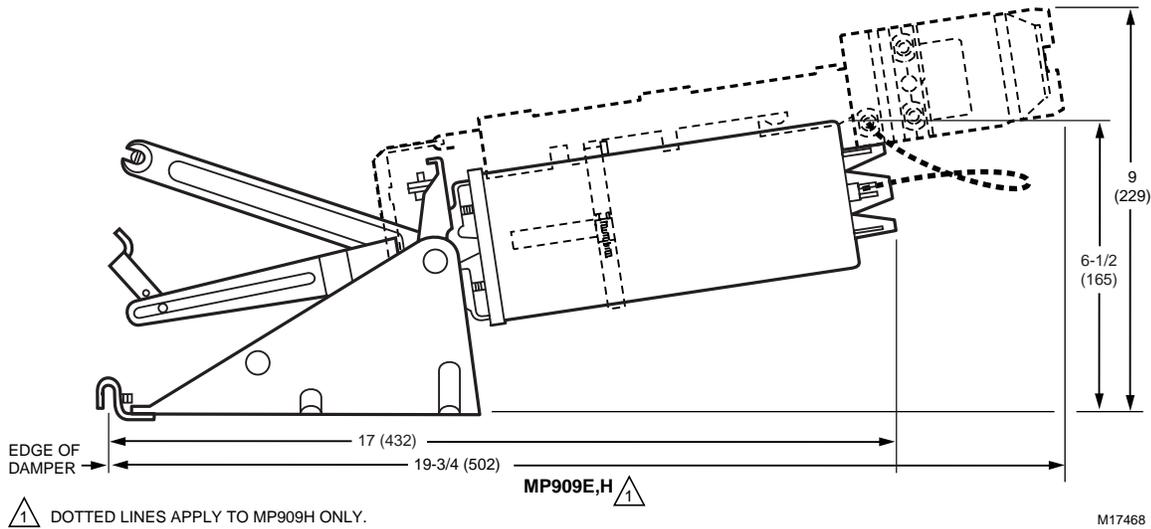

Fig. 13. Internal Mounting Normally Open Dimensions in in. (mm).
1. See Fig. 13 for internal mounting normally open dimensions.